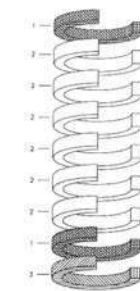

Figure no. 3
- Remove the nuts (16) of the gland bolts (15).
- Lift the gland flange (10) and the gland (6).
- The repacking shall be carried out by placing one ring at a time around the stem, inside the stuffing box and by making sure that they are correctly oriented. Press it into the bottom (refer to Figure no. 3).
- When the stuffing box is filled, replace the gland (6) and gland flange (10) in their original position.